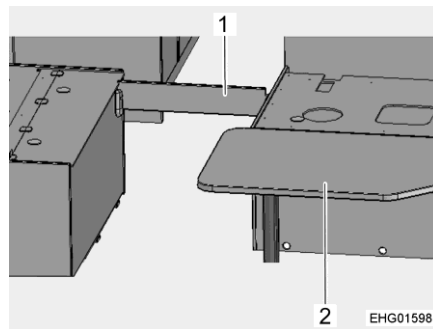

Fig. 107 During conversion
- Convert the table (Fig. 107,2) into a bed foundation (see section 7.6).
- Fit the support boards (Fig. 107,1).